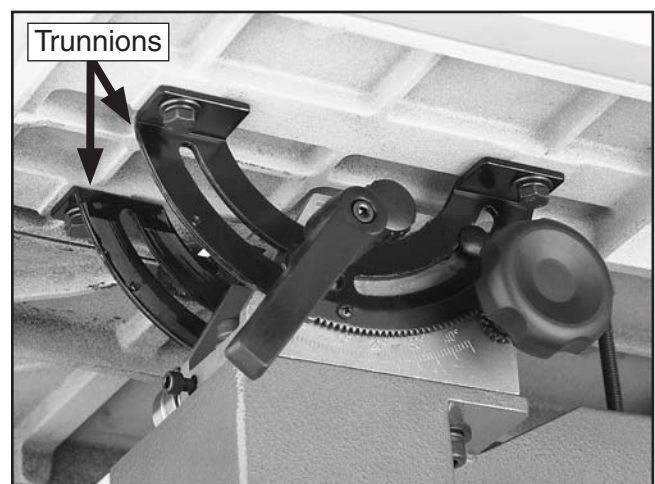

Figure 17. Mounting the table.
5. Secure the table to the trunnions as shown in **Figure 17** with the (4) M8-1.25 x 16 hex bolts, 8mm lock washers, and 8mm flat washers.